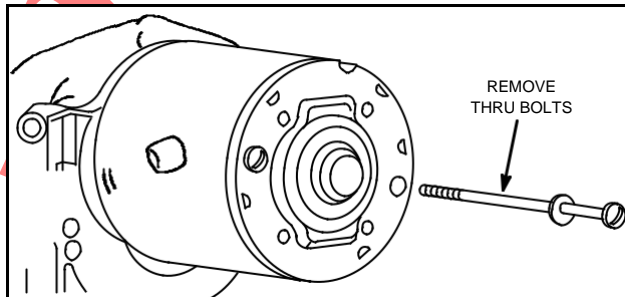

Fig. 655 – REMOVING THRU BOLTS
5. Remove the starter motor thru bolts, Fig. 655.